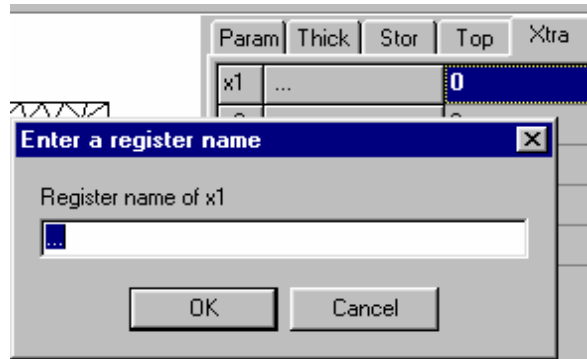

Figure 43: Changing register name
4. First make sure you are in Input mode. Right click on the number (x1) or text part (...) of the x1-row (a picture similar to Figure 43 will appear):and enter the name "h1 w/o well" (without quotes) and click on the OK-button or press the Enter-key.